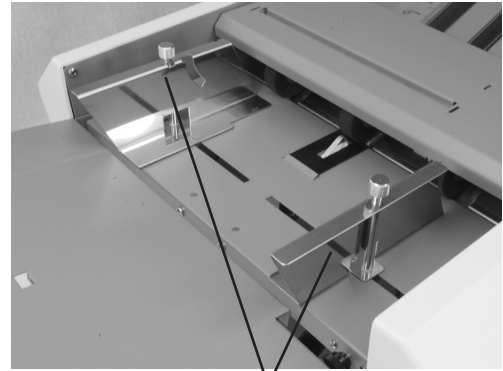

Fig. 6 Self centering side guides
3. Set the self-centring paper side guides for the width of the paper and lock in position using thumbscrews. (Fig 6)